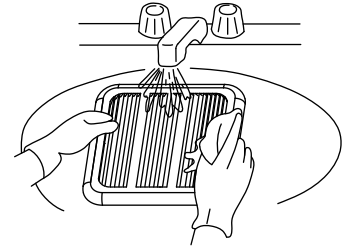

Figure 7
2. Wash the screen in a sink and dry with a cloth (Fig. 7).